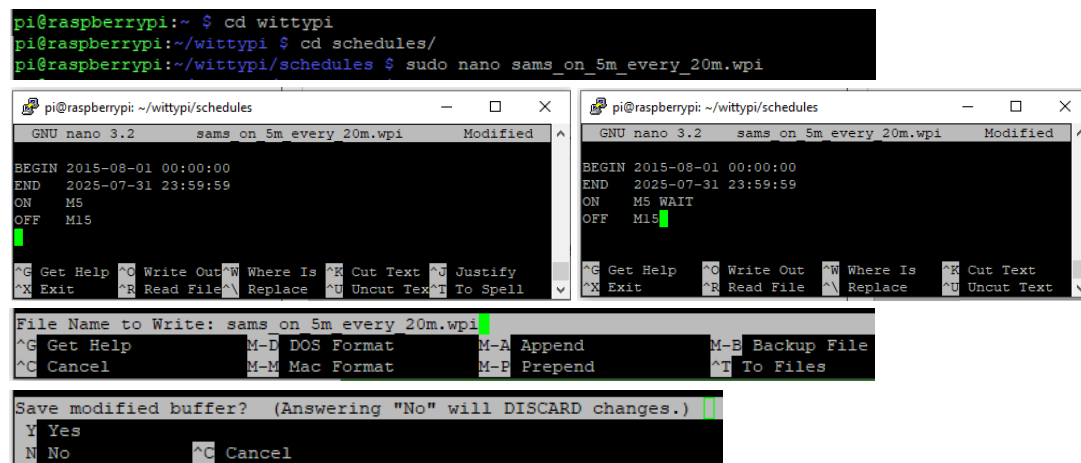
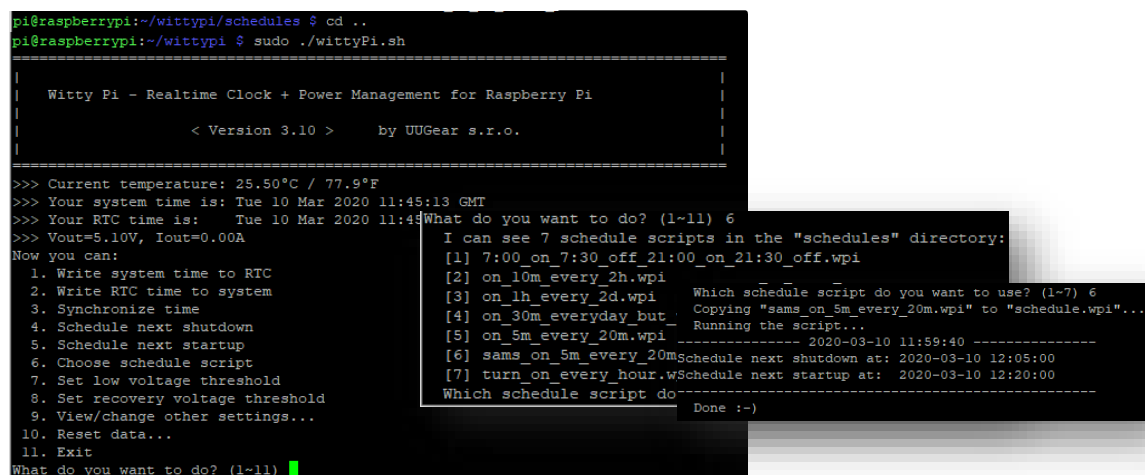

Figure 33: Create Witty Pi Schedule Script via SSH Terminal
Figure 34: Start Witty Pi Software (bash script)
Option 2: Using SSH connection (Chapter 3.3) a new file should be created in the folder *wittypi/schedules/* with the extension *.wpi* (Figure 33). The code of the schedule script is copied into this and the file can be saved and closed with Ctrl + X and confirmation with Y (Figure 33). Then change to the */wittypi/* folder and start the Witty Pi software (a bash script) with the command `sudo ./wittyPi.sh` (see Figure 34). There you can select and activate the previously created script under the menu item 6 Choose schedule scripts (see Figure 34).